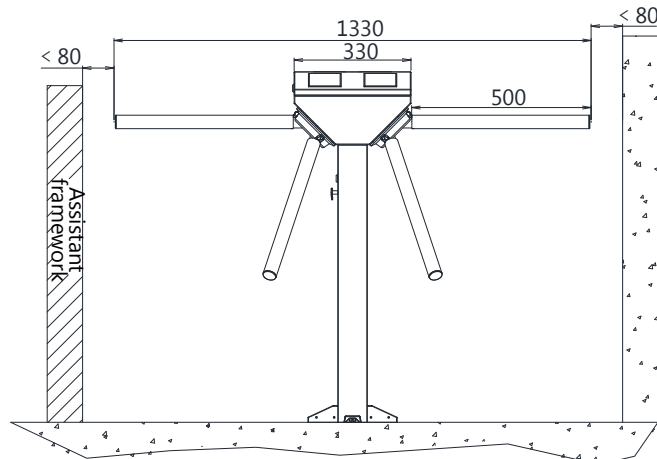

Figure 3-1
You are suggested to install an assistant framework or fence to form a passageway, as shown in figure 3-1.
1. The space at the end of the arm shall not be greater than 80 mm (see figure 3-1).